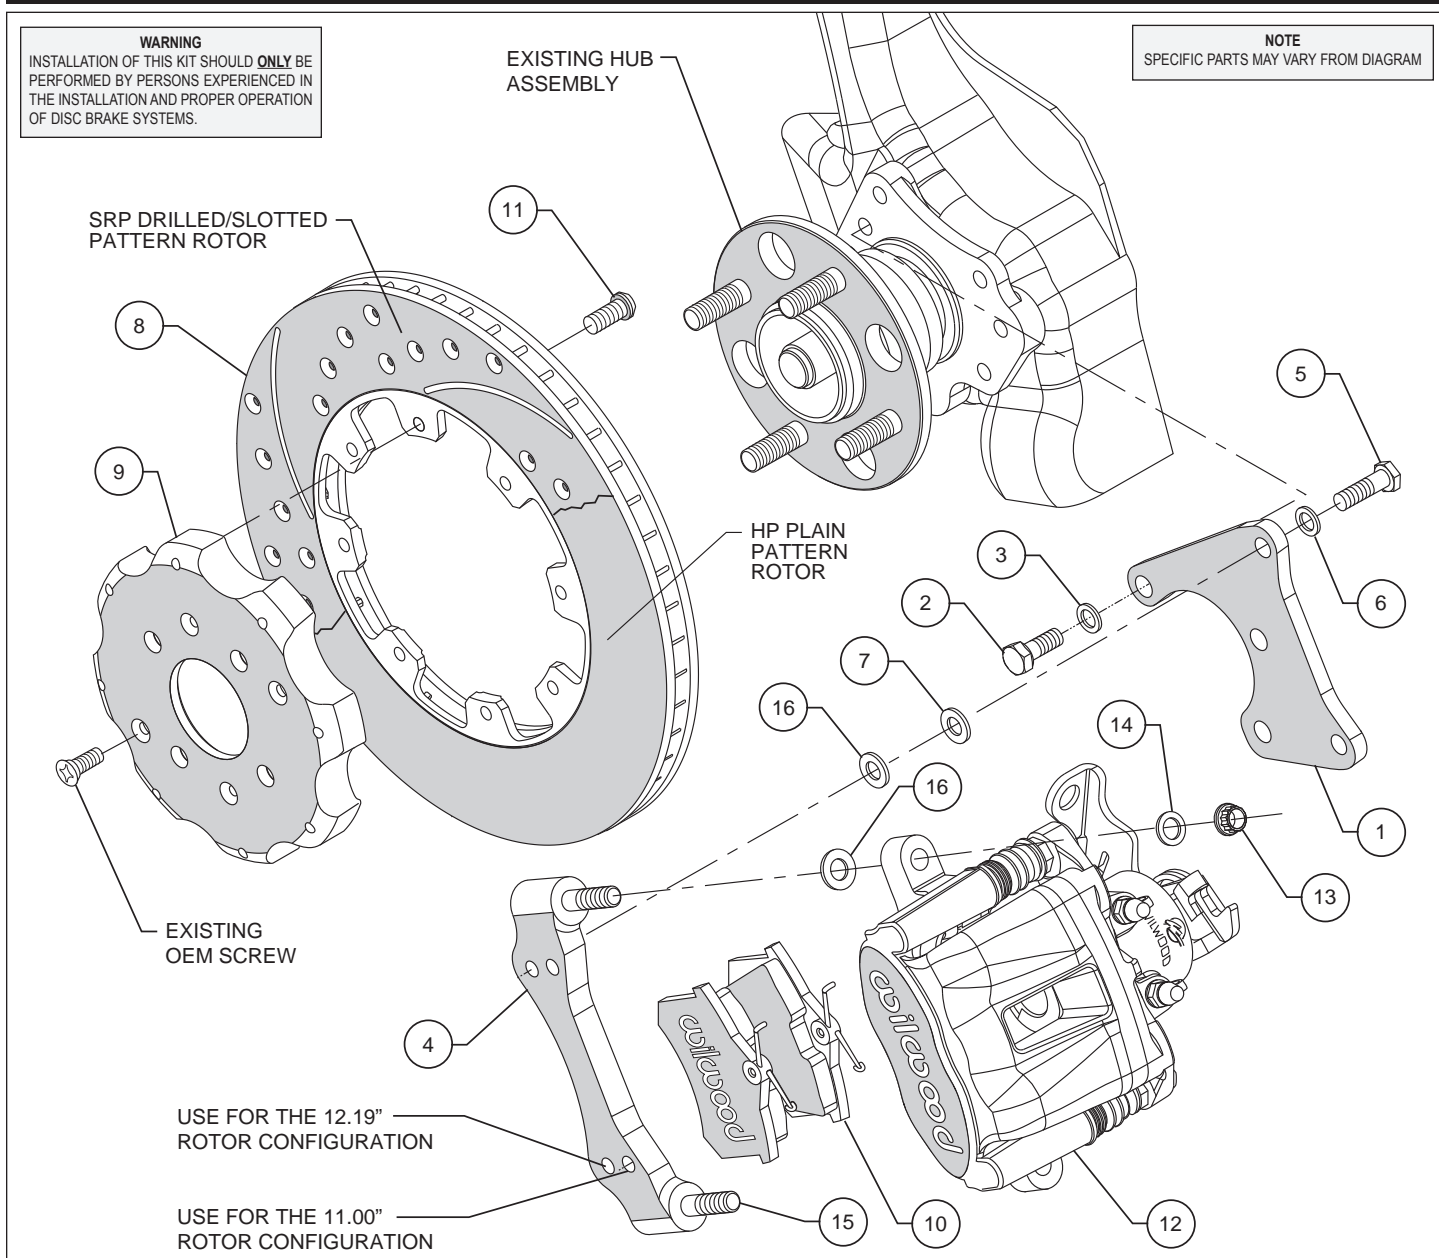

Figure 1. Typical Installation Configuration
- The axle bracket (1) and the radial mount caliper bracket (4) should be installed first with clean, dry threads on the mounting bolts. Install the axle bracket (1) on the outboard side of the hub assembly by sliding bolt (2) through washer (3) through the axle bracket mounting holes and thread into the hub assembly. Next install the radial mount bracket (4) on the outboard side of the axle bracket (1) by sliding bolt (5) through washer (6), through the axle bracket mounting holes and thread into lower holes in caliper bracket (4) (see figure 1). Place two shim washers (16) between the axle bracket (1) and the caliper mounting bracket (4). The axle bracket (1) must tighten squarely against the hub assembly and the caliper mounting bracket (4) must tighten squarely against the outboard side of the axle bracket (1). Inspect for interference from casting irregularities, machining ridges, burrs, etc. Use two shims (16) between the axle mounting bracket (1) and the caliper mounting bracket (4).
- With the larger I.D. side of the rotor (8) facing away from the hat (9), attach rotor (8) to hat (9) using bolts (11) as shown in Figure 1. Using an alternating sequence, remove bolts one at a time, apply red *Loctite*® 271 to the threads, and torque to 25 ft-lb.
- Slide the brake pads (10) up into the caliper (12) from the bottom until the "v" spring clip snaps into place against the anvil. They should install easily without interference.
- Lubricate caliper mounting studs and nuts with lightweight oil. Install two shims (16) over each stud (15) on the radial mount bracket (4). Slide the caliper (12) in place over the studs and rotor and install the washer (14) and lock nut (13) to hold the caliper in place. The caliper bleed screw should be pointing toward the rear of the vehicle. Snug the lock nuts (13) and check that the caliper (12) is centered over the rotor (8). Add or subtract .016" shims (7) and/or .035" shims (16) as necessary between the caliper mounting bracket (4) and the axle bracket (1) to center the caliper (12) on the rotor (8).
- Check that the outside radius of the brake pad (10) is aligned with the outside diameter radius of the rotor face. Add or subtract shims (16) between the caliper (12) and caliper mounting bracket (4) to gain the proper alignment.
- Once all clearances have been checked, remove the wheel, caliper and rotor from the axle flange. Secure the caliper mounting bracket (4) to the axle bracket (1) while applying red *Loctite*® 271 on the bolt threads (5). Torque the bolts (5) to 35 ft-lbs. Then secure the axle bracket assembly (1 and 4) to the hub using red *Loctite*® 271 on the bolt threads (2). Torque the bolts (2) to 40 ft-lbs. Reinstall the rotor and again use several lug nuts to hold it in place being sure to align the small countersunk holes in the hat (9) with the corresponding holes in the hub. Reinstall the caliper, torque the caliper nuts (13) to 30 ft-lbs.